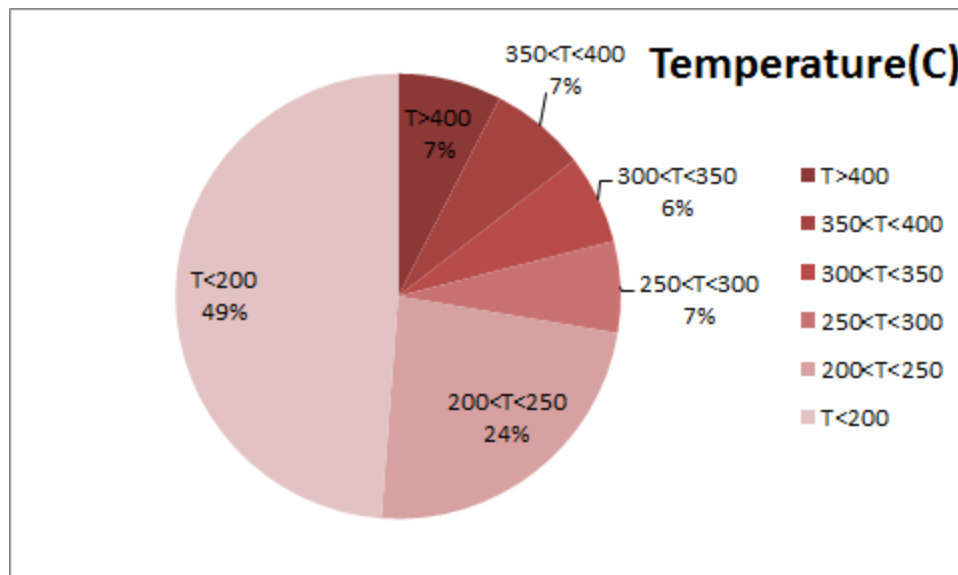

Figure 2-Temperature1 distribution over the working hours
- Figure 2 displays flow temperature before the DPF. It can be obviously observed that 7% of total working-time temperature is above 400 °C and 14% above 350°C.